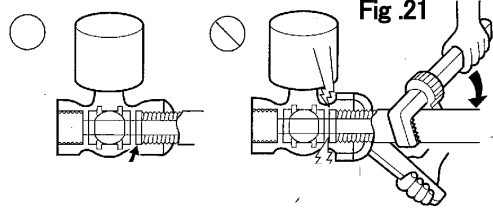

Fig. 21
- **Do not** excessively thread a valve into a pipe. It will damage or distort the valve interior and cause malfunction of the valve or external fluid leakage (Fig.21).